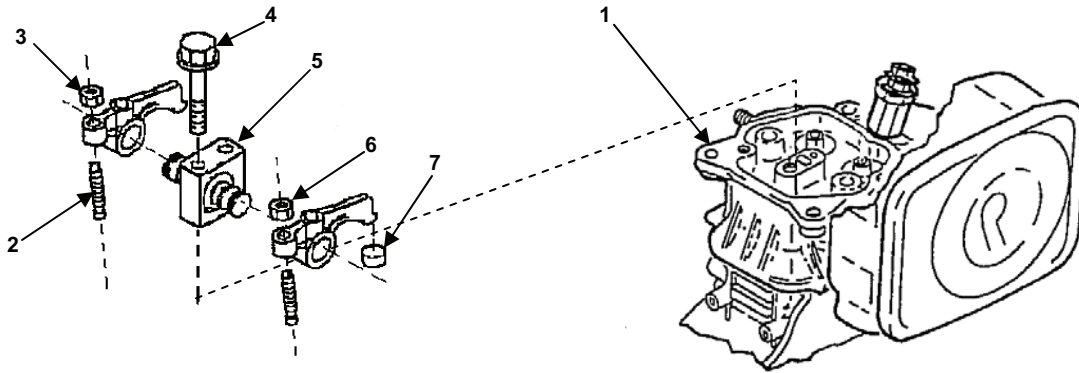

Figure 11. Rocker Arm Assembly Installation.
1. Re-install the rocker arm on the cylinder head by tightening the screws (Figure 11, item 4) on the cylinder head (Figure 11, item 1).
2. Place the wear caps (Figure 11, item 7) on the end of the valve stem.
3. Torque the screws (Figure 11, item 4) between 14 – 16 ft-lb (1960 – 2256 N-cm).